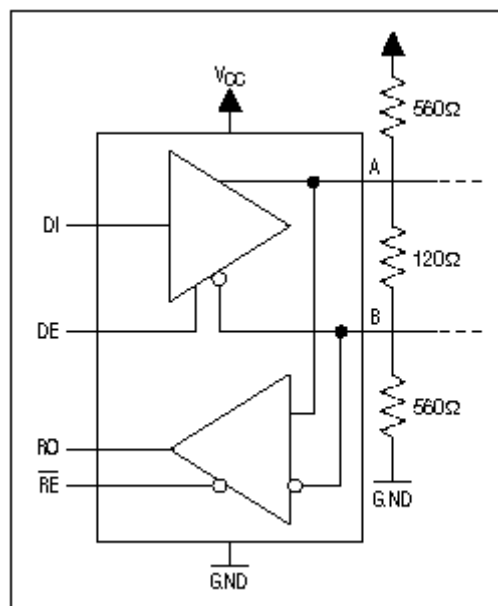

Figure 1. Three external resistors form a termination and failsafe biasing network for this RS-485 transceiver.
For RS-485 receiver inputs between  $-200mV$  and  $+200mV$ , the output is undefined. That is, if the differential voltage on the RS-485 side of a half-duplex configuration is  $0V$ , and no master transceiver is driving the line (or a connection has come loose), then a logic "high" output is as probable as a logic "low." To ensure a defined output under these conditions, most of today's RS-485 transceivers require failsafe bias resistors: a pullup resistor on one line (A) and a pulldown on the other line (B), as shown in Figure 1. Historically, the failsafe bias resistors on most schematics were labeled  $560\Omega$ , but to reduce power loss (when terminating one end only) this value can be increased to approximately  $1.1k\Omega$ . Some designers terminate both ends with resistor values between  $1.1k\Omega$  and  $2.2k\Omega$ . The trade-off is noise immunity versus current draw.